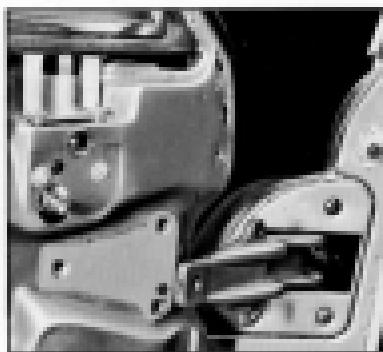

Fig. 44. Front Door Hinge (HS Series)
2. On front doors, with a helper holding door, remove the cross-head screws securing each hinge bar assembly to the front body pillar. Some of these hinge screws are accessible inside the hinge box. (Fig. 44)